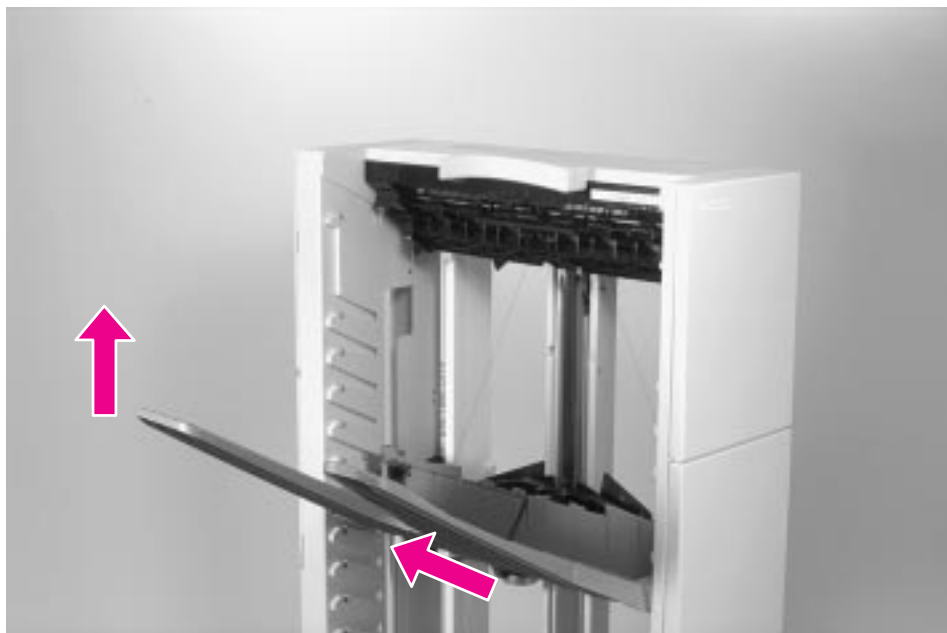

Figure 6-75 Mailbox with Stapler, Bin Removal
- 1 Remove the paper bins and the blind cover (see figure 6-75).
- 3 Remove all paper bins and the blind cover (see figure 6-75 on page 244).
- 1 Remove all paper bins and the blind cover (see figure 6-75 on page 244).
- 2 Remove all paper bins and the blind cover (see figure 6-75 on page 244).
- 2 Lift up on the outer edge of the bin (or blind cover) to clear the retaining notch, and pull it forward out of the frame (figure 6-75).
- 1 Remove all paper bins and the blind cover (see figure 6-75).